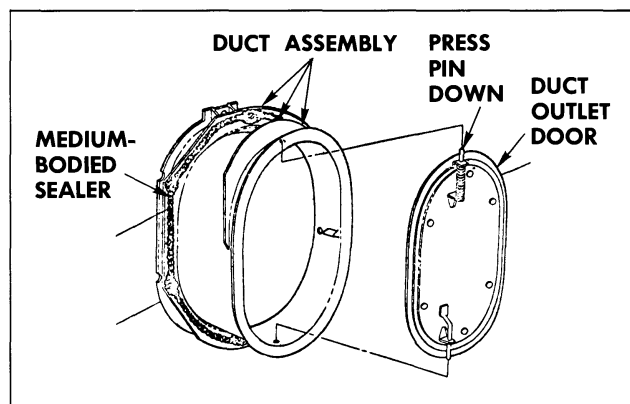

Fig. 11-15 Air Outlet Duct Assembly and Sealing
3. Remove screws securing outlet assembly to shroud side panel (Fig. 11-15) and remove assembly.
4. To install, apply medium-bodied sealer around entire inner flange of outlet assembly, to insure watertight seal to shroud, and reverse removal procedure (Fig. 11-15).
4. Depress upper door pin to disengage pin and remove door. (Fig. 11-15).